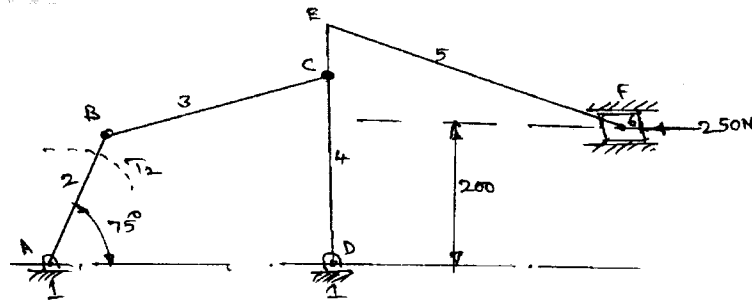

Fig.Q1(b)
b. For the static equilibrium of the mechanism shown in Fig.Q1(b), find the required input torque  $T_2$ . The dimensions are  $AB = 150$  mm,  $BC = AD = 500$  mm,  $DC = 300$  mm,  $CE = 100$  mm and  $EF = 450$  mm. (14 Marks)